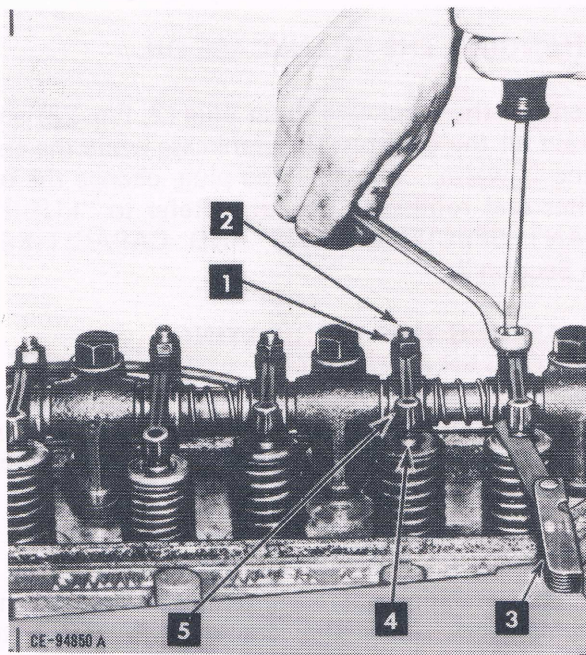

Fig. 24. Adjusting Valve Lash
Loosen the adjusting screw lock nut on the valve lever (Fig. 24). Insert the feeler gauge (3) between the valve lever (5) and valve stem (4). Turn the adjusting screw (2) in or out as necessary to hold the feeler gauge snugly. When the correct clearance is obtained, hold the adjusting screw in place with a screwdriver, tighten the lock nut (1) and re-check the clearance.
NOTE: If valve lever adjusting screws (2, Fig. 24) are self clamping and do not have lock nuts, they must turn with more than 16 N•m (12 ft-lbs) or a new screw or new valve lever or both should be installed since it is possible that the screw will work loose.